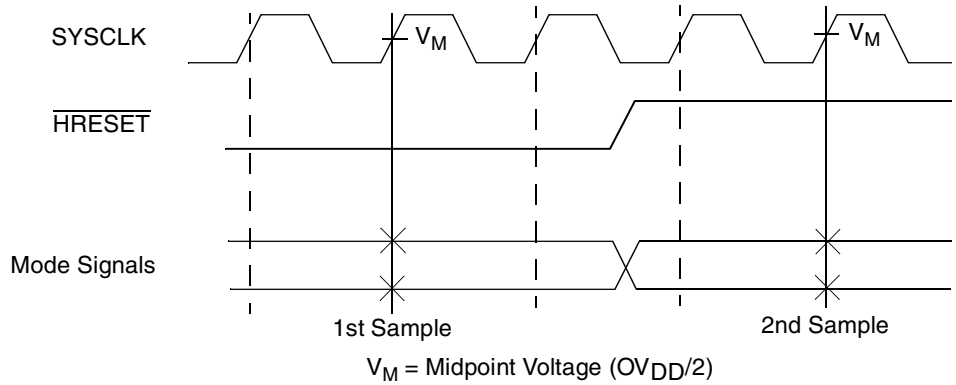

Figure 5. Mode Input Sample Timing Diagram
Table 9 provides the processor bus AC timing specifications for the MPC7447A as defined in Figure 4 and Figure 5.
8. $\overline{\text{BMODE}}[0:1]$ and $\overline{\text{BVSEL}}$ are mode select inputs and are sampled before and after $\overline{\text{HRESET}}$ negation. These parameters represent the input setup and hold times for each sample. These values are guaranteed by design and not tested. These inputs must remain stable after the second sample. See Figure 5 for sample timing.
Figure 5 provides the mode select input timing diagram for the MPC7447A. The mode select inputs are sampled twice, once before and once after $\overline{\text{HRESET}}$ negation.